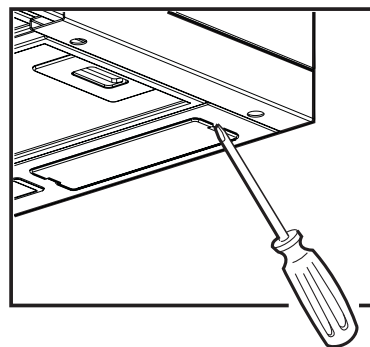

Fig.2
3. Secure the hood to the front with two screws (**Fig. 2** - one each side).
2. Use a small screwdriver or any other suitable tool to prise off the lamp cover (**Fig. 2**).